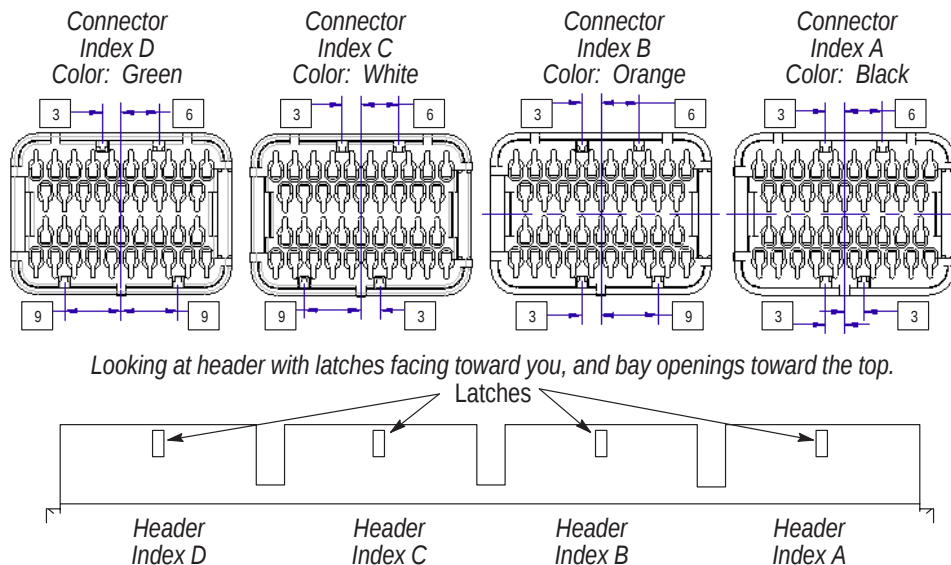

Figure 2
The female connector assemblies are keyed and color coded to match their mating header bay (i.e. either A, B, C, or D) on the NGC module. See Figure 2. The female connector assembly has been designed to be inserted into the proper mating bay with very little effort. An audible "click" will be heard when the female connector assembly's main latch passes over the locking ramp on the header bay.
- Changed color of "gray" connector in Figure 2 to "orange"